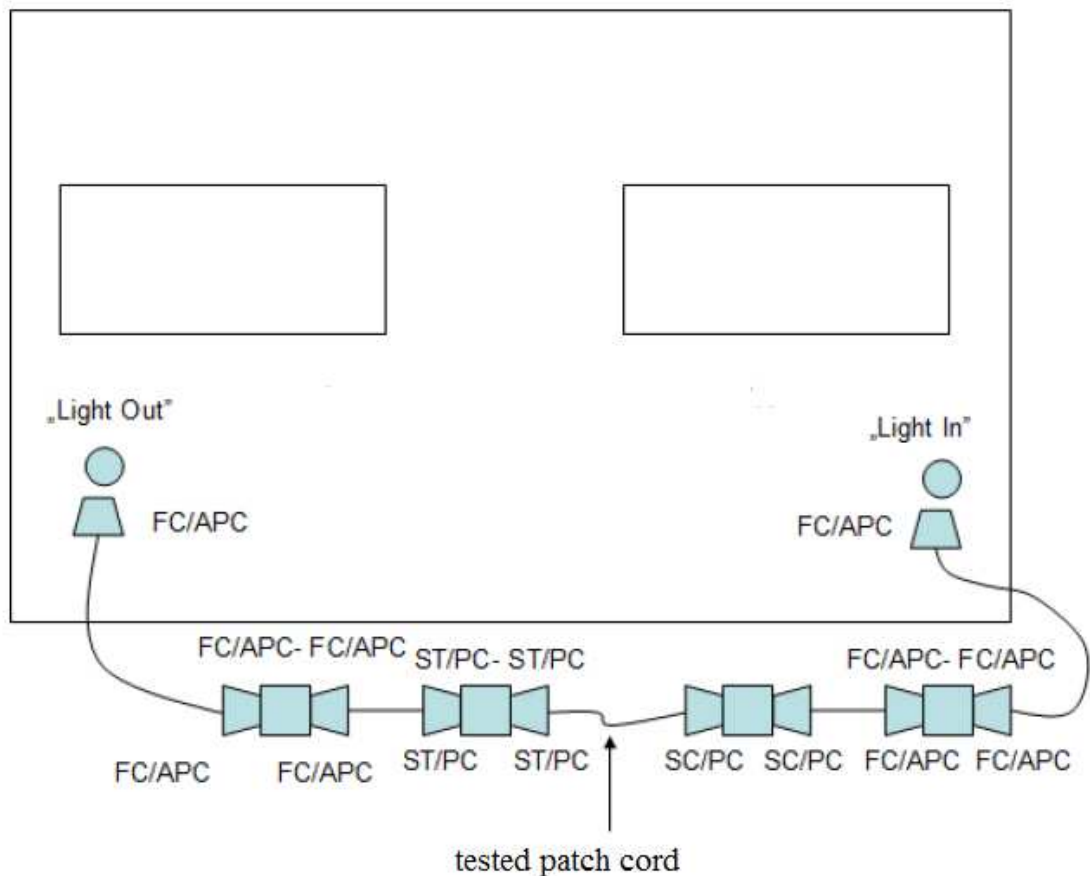
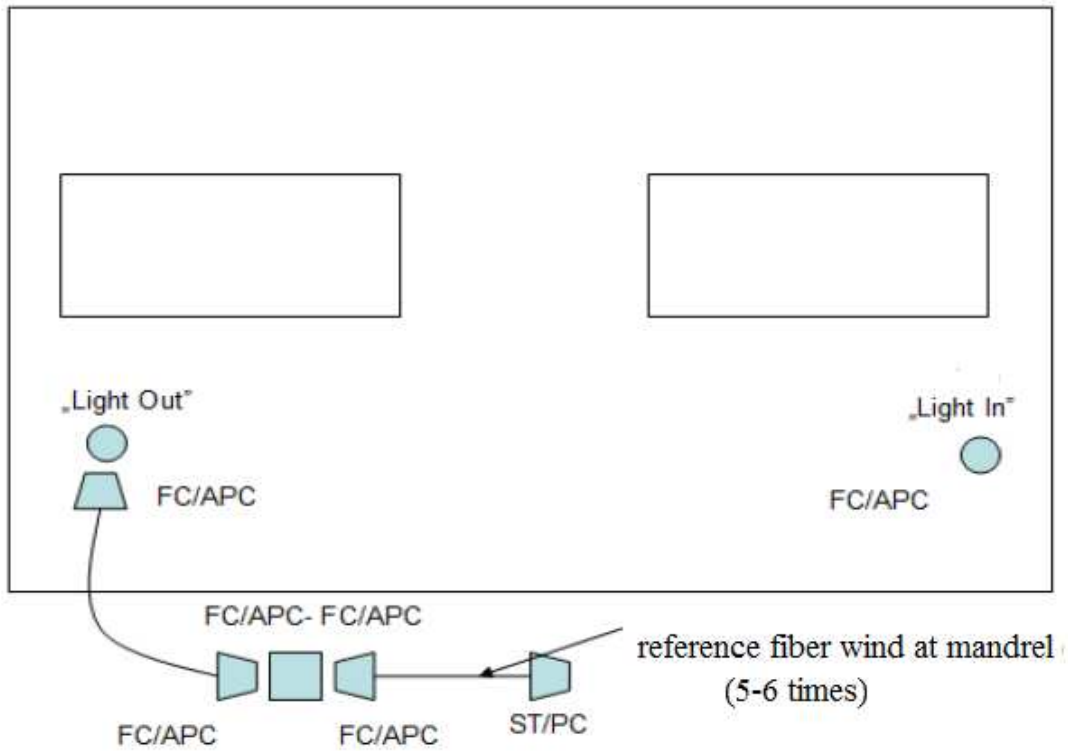

Fig.2 IL measurement.
Fig. 3 Calibration of the meter for RL measurement.
6. Connect tested fibers according to Figure 2.
8. Measure the return loss (RL) according to point 9.
10. Connect the fibers with adapters according to Figure 3.